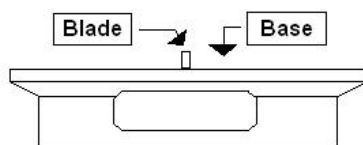

Figure 11: Gauge ring for Super 300 type Pillar fittings
- 1) Remove the access panel(s) from the rear of the unit, exposing the internal plumbing and heater column(s). The inlet plumbing will be located just below the bottom of the access panel, and the outlet plumbing will be located just above the access panel (See figure 11).